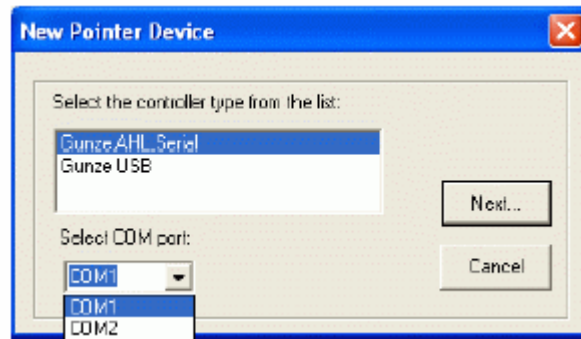

Figure 2
6. For RS-232 Serial connection select “Gunze, AHL, Serial” and the COM port to connect to the touch panel. See Figure 2